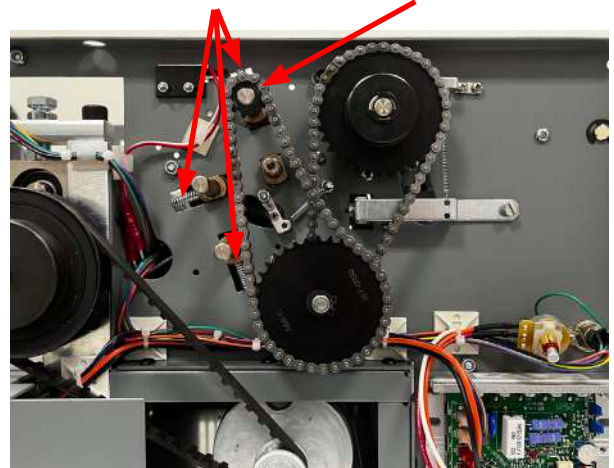

Fig. 50
6. Remove bearing springs on both ends of rollers bearing plate (Fig. 50).